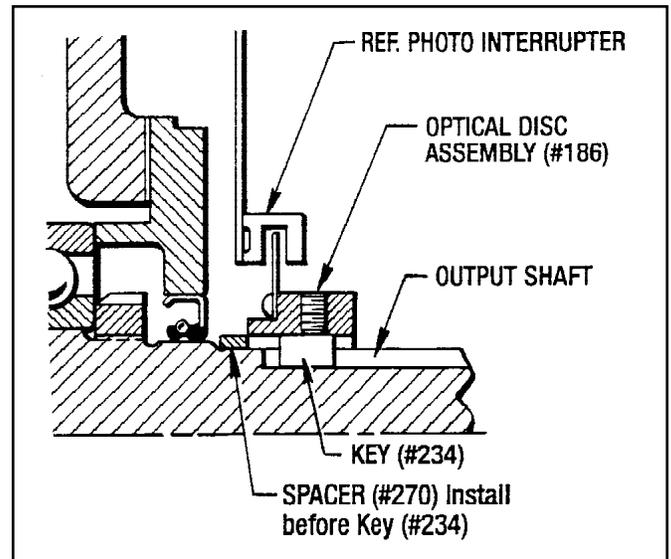

Figure 7.3 - Optical Disc and Hub Positioning
1. First slide the Spacer (#270) on to the Posidyne output shaft as far as it will go. Install Key (#234) and slide the Optical Disc Assembly on to the output shaft butting it up against the Spacer (#270). (See Figure 7.3)
5. Slide the Disc Housing (#17) on to the output shaft **being careful not to damage the Dirt Seal (#269) lip on the Optical Hub.** Attach with (4) Screws (#76). **Use Blue Loctite (#242) on the threads.**
7. Carefully insert the Circuit Board (#355) into the top of the Disc Housing, make sure the (3) Photo Interrupters straddle the Optical Disc. **Be sure that the Optical Disc does not rub the Photo Interrupters.** (See Figure 7.3)